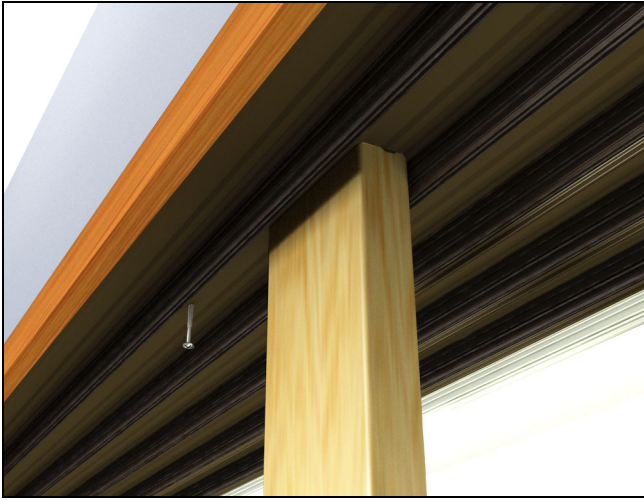

Figure 25
4. If necessary, shim head jamb so that the story pole stays in light contact with the sill and head jamb frame. Fasten with #8 x 3" black installation screws. See figure 25.